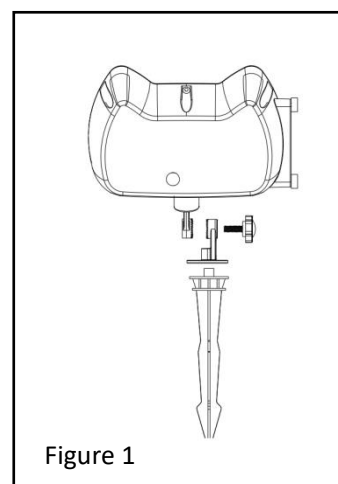

Figure 1
2. Install the pivot with the screw. (See Figure 1)